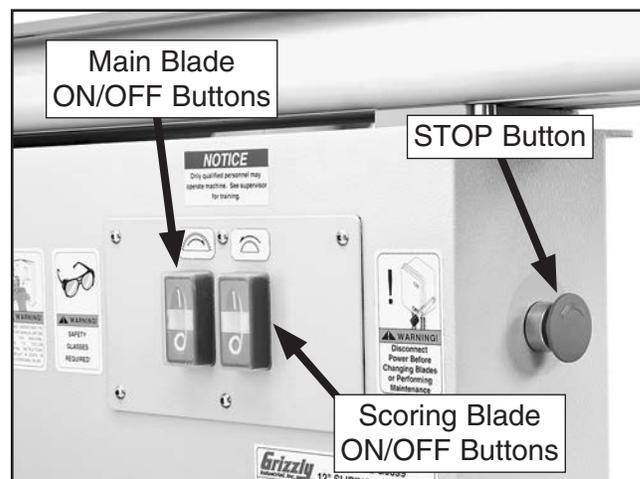

Figure 68. Power controls.
3. Review the power controls shown in **Figure 68**.